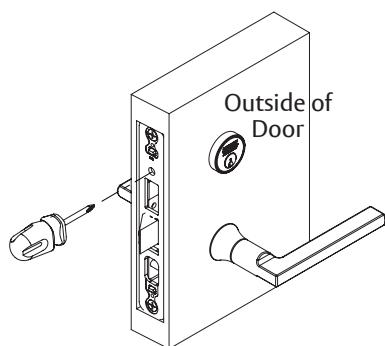

Figure 6
3. Secure cylinder in lockbody using access hole just above deadbolt opening. (Figure 6)